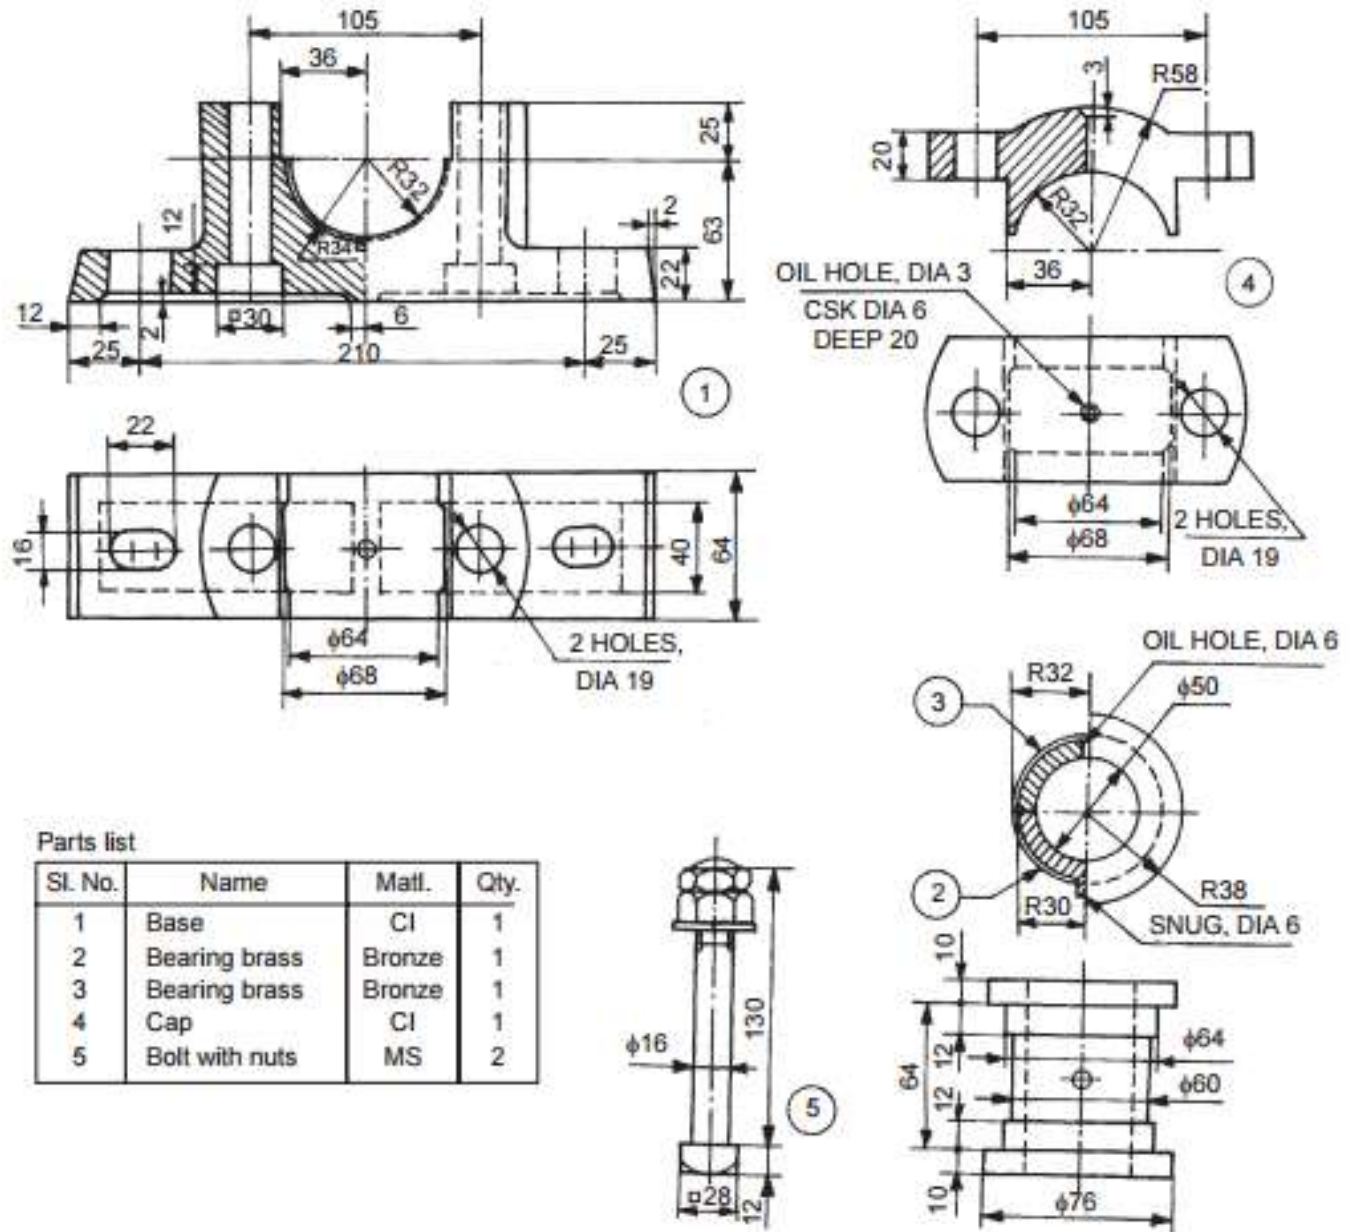

Figure 1
3. (a) Assemble the parts of universal coupling as shown in Figure 1 and draw,